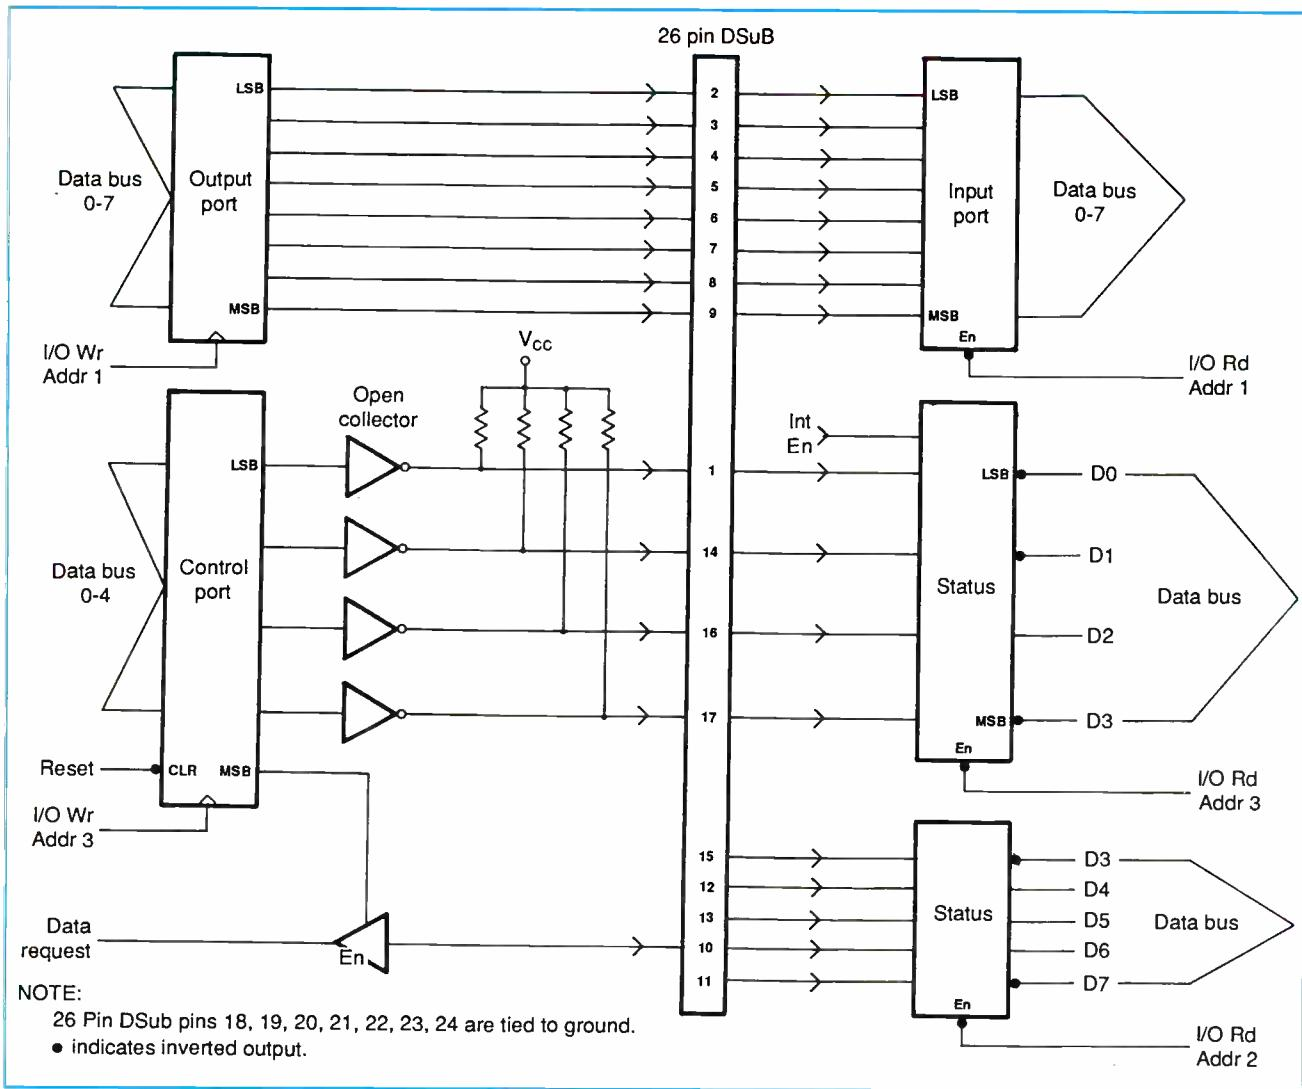

Fig. 2. Block diagram of fuzzy-logic interface circuitry
- **Parallel Printer Interface.** A block diagram of the printer port's hardware is shown in Fig. 2. (See the May/June issue of *MicroComputer Journal* for a complete explanation of the parallel port's hardware.). Table 1 lists the addresses for each of the three ports.